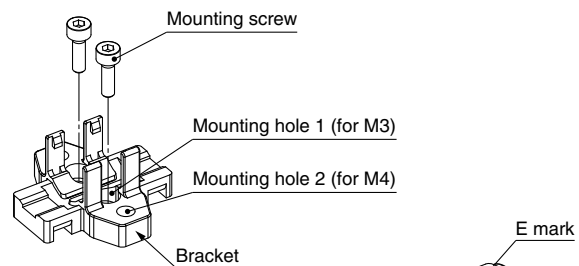

Fig. 6
- 1) The standard bracket for the ZH18/20D□A can be mounted by using either mounting hole 1 or 2 (Fig. 6).
- 2) When mounting the product through mounting hole 1, mount the bracket to the installation surface first (Fig. 6).